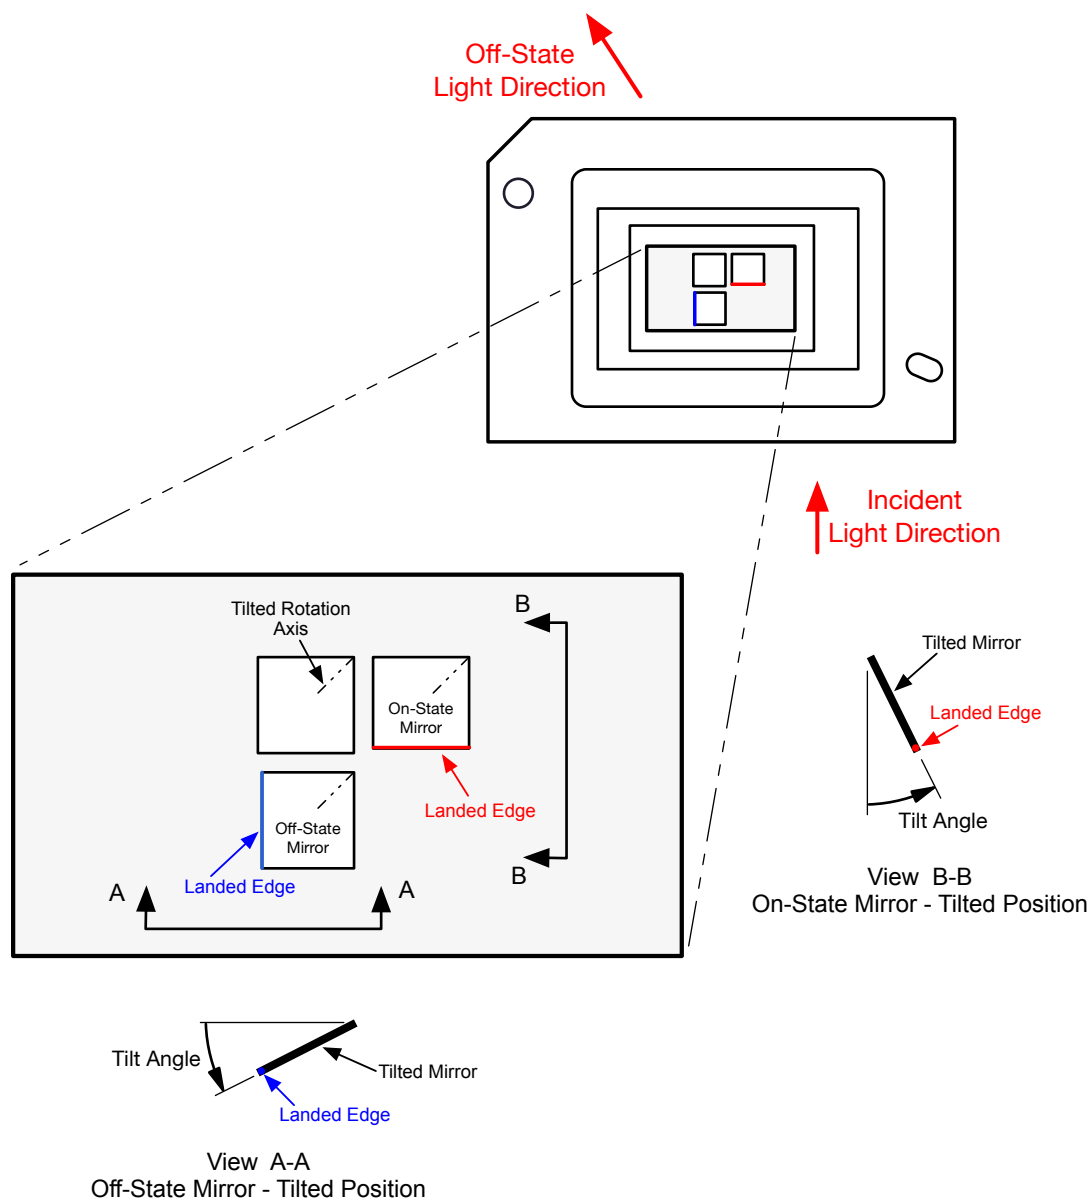

Figure 6-10. Micromirror Landed Orientation and Tilt
- (1) Measured relative to the plane formed by the overall micromirror array
- (2) Represents the variation that can occur between any two individual micromirrors, located on the same device or located on different devices.
- (3) For some applications, it is critical to account for the micromirror tilt angle variation in the overall system optical design. With some system optical designs, the micromirror tilt angle variation within a device may result in perceivable non-uniformities in the light field reflected from the micromirror array. With some system optical designs, the micromirror tilt angle variation between devices may result in colorimetry variations, system efficiency variations or system contrast variations.
- (4) When the micromirror array is landed (not parked), the tilt direction of each individual micromirror is dictated by the binary contents of the CMOS memory cell associated with each individual micromirror. A binary value of 1 results in a micromirror landing in the ON State direction. A binary value of 0 results in a micromirror landing in the OFF State direction. See Figure 6-10.
- (5) The time required for a micromirror to nominally transition from one landed state to the opposite landed state.
- (6) The minimum time between successive transitions of a micromirror.
- (7) An out-of-specification micromirror is defined as a micromirror that is unable to transition between the two landed states within the specified Micromirror Switching Time.
- (8) Efficiency numbers assume 35-degree illumination angle, F/2.4 illumination and collection cones, uniform source spectrum, and uniform pupil illumination.